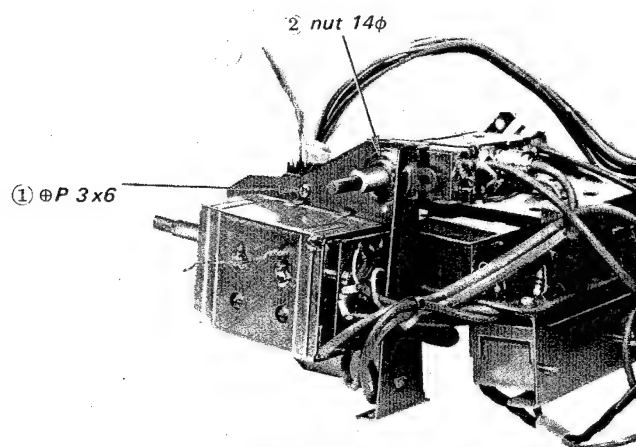

Fig. 13
2. Remove a nut (② in Fig. 13).
2. Remove a screw (① in Fig. 13).